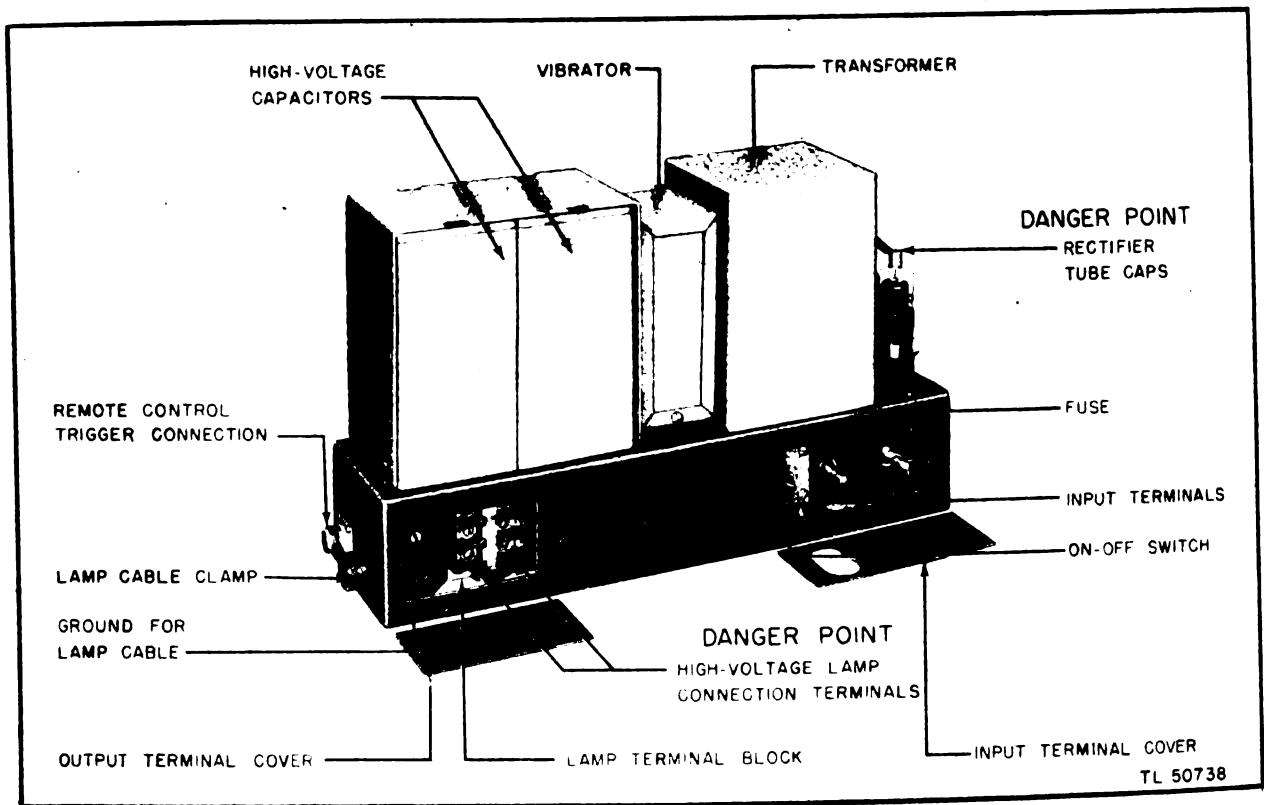

Figure 12. Voltage Converter PP-49/VVX-1 or PP-50/VVX-1X, cover removed.
17. REPLACING TUBES (fig. 12).
CAUTION: Discharge high-voltage capacitors before attempting any inspection or repairs (par. 12). Danger points are marked on figures 12, 20, and 21. At these points, a shock could mean serious injury or death. However, use care in servicing any part of the equipment since there are other points at which a mild shock may be received.
- a. If the visual identification equipment does not operate, examine the fuse. If fuse is blown, first replace vibrator (fig. 12) as explained in paragraph 16. Next, replace fuse as explained in paragraph 15.